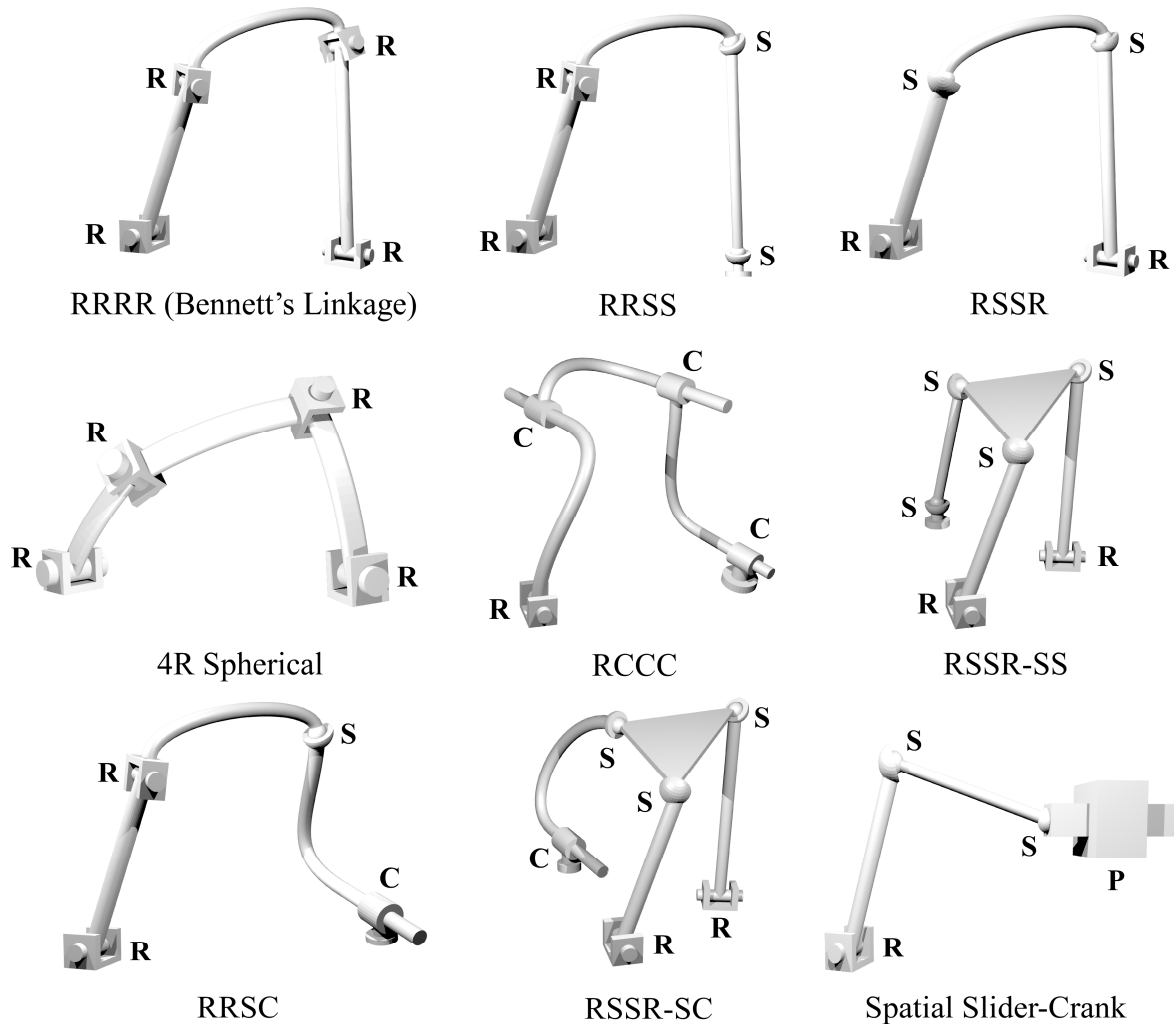

Figure P.2.4 Spatial mechanisms comprised of R, P, C and S joints
7. Figure P.2.4 illustrates 9 spatial mechanisms that include revolute (R), prismatic (P), cylindrical (C) and spherical (S) joints. Calculate the mobility of these mechanisms.
Maverick Mechanisms are mechanisms that defy Grubler's Equation (Grubler's Equation will produce misleading results for Maverick Mechanisms). *Passive Degrees of Freedom* are localized DOFs that have no effect on the overall mechanism kinematics. Determine which mechanism from Figure P.2.4 are maverick mechanisms and locate the passive DOFs from among the mechanisms in Figure P.2.4.